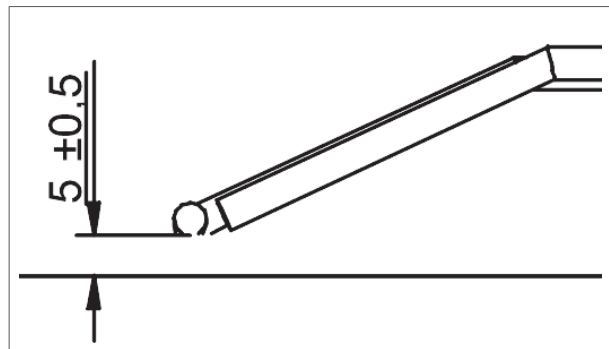

Figure 22 - Distance between the electrode and the burner
- a. The distance between the electrode and the burner should be $5.0 (\pm 0.5)$ mm (figure 22).